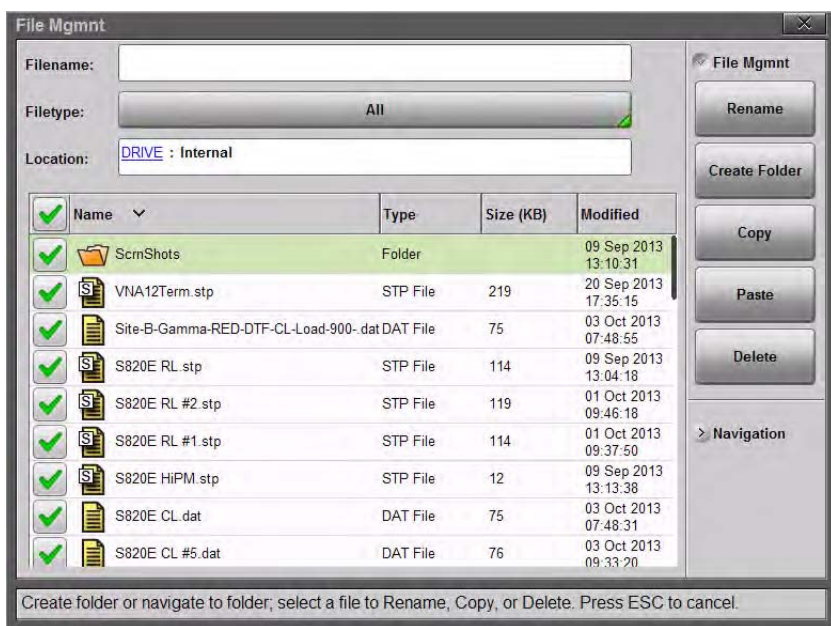

Figure 10-19. Selecting Multiple Items to Delete
2. Select the files and folders to delete. If desired, use the check box column header to select all of the files in the current location or folder (Figure 10-19). Use the **Navigation** submenu buttons as needed to move through a long list of files.